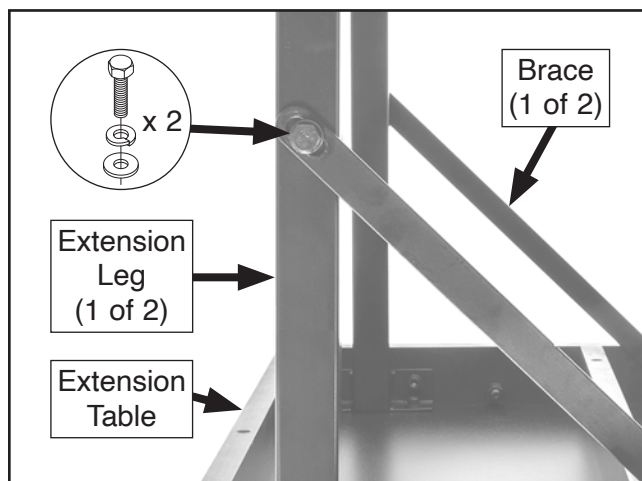

Figure 11. Braces attached to extension legs.
14. Attach (1) brace to each extension leg with (1) M8-1.25 x 16 hex bolt, 8mm lock washer, and 8mm flat washer as shown in **Figure 11**.